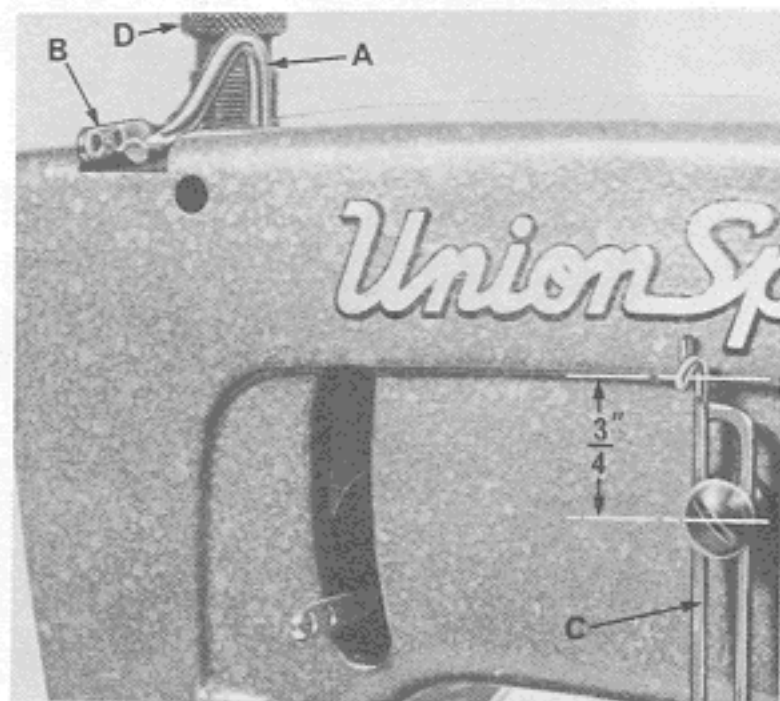

Fig. 13
Set the needle thread take-up wire (A, Fig. 13), located adjacent to the needle bar thread eyelet (B), so that its upper surface is even with the top of the holes in the needle bar thread eyelet when the needle bar has completed its downward stroke. Lower this setting for a smaller needle thread loop, and raise it for a larger loop. Set the needle thread frame eyelet (C) so that the eyelet hole is 3/4 inch above the attaching screw (Fig. 13).
Regulate the presser spring regulating screw (D, Fig. 13) so that it exerts only enough pressure on the presser foot to feed the work uniformly when a slight tension is placed on the fabric. This is the knurled screw, located directly behind the needle bar in the head of the machine. Turning it clockwise increases the pressure, counter-clockwise acts the reverse.